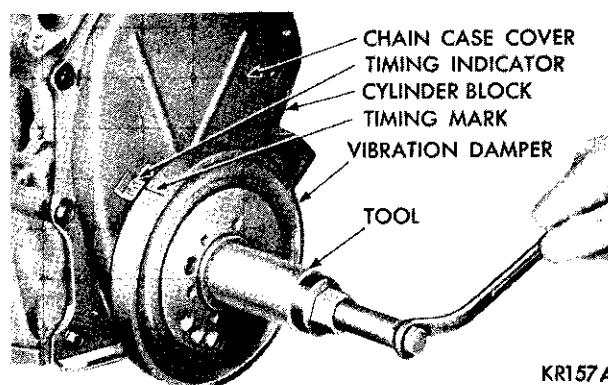

Fig. 28—Installing Vibration Damper Assembly
(1) Be sure mating surfaces of chain case cover and cylinder block are clean and free from burrs.
(2) Using a new gasket slide chain case cover over locating dowels. Install and tighten bolts 15 foot-pounds.
(3) Lubricate seal lip with Lubriplate, place damper hub slot on key in crankshaft, and slide vibration damper on crankshaft.
(4) Place installing tool, part of Tool C-3688 in position and press damper on the crankshaft (Fig. 28).
(5) Install damper retainer washer and bolt. Tighten to 135 foot-pounds.
(6) Slide belt pulley over shaft and attach with bolts and lockwashers. Tighten bolts to 200 inch-pounds.